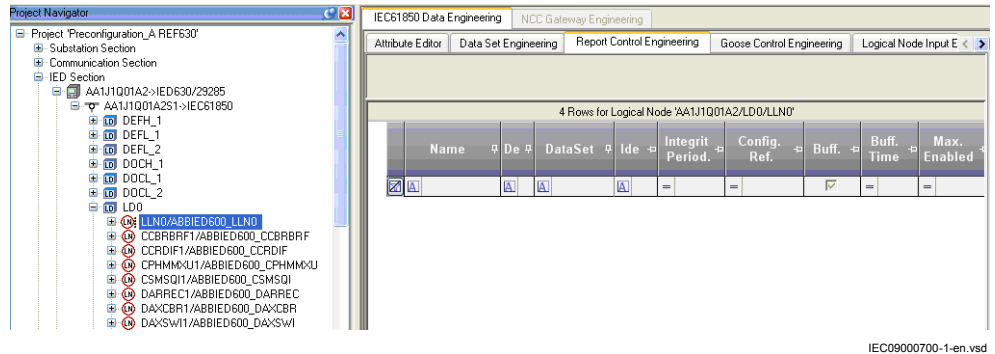

Figure 89: CCT600: Report control engineering
4. Select *LLNO*, the logical node that has 4 vertical dots, from the list as shown in Figure 89